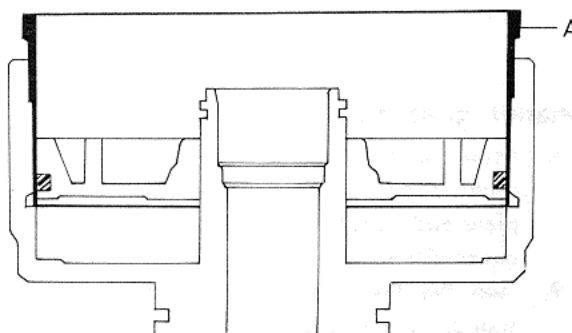

Fig. 67. Installing piston for rear clutch
12. Fit the sealing rings for the piston. Use fitting ring SVO 2534 and fit the piston in the clutch case, see Fig. 67.